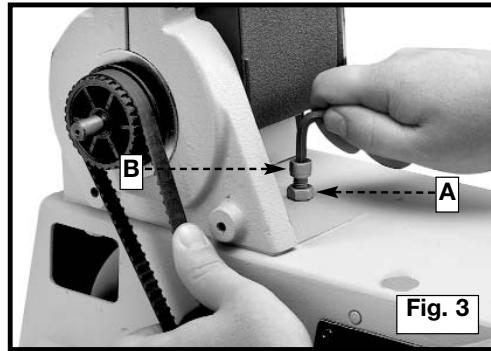

Fig. 3
3. To adjust, loosen the locknut (A) Fig. 3, and tighten or loosen the adjusting screw (B) with the supplied 6mm hex wrench until the belt has the correct tension.
4. Tighten locknut (A).